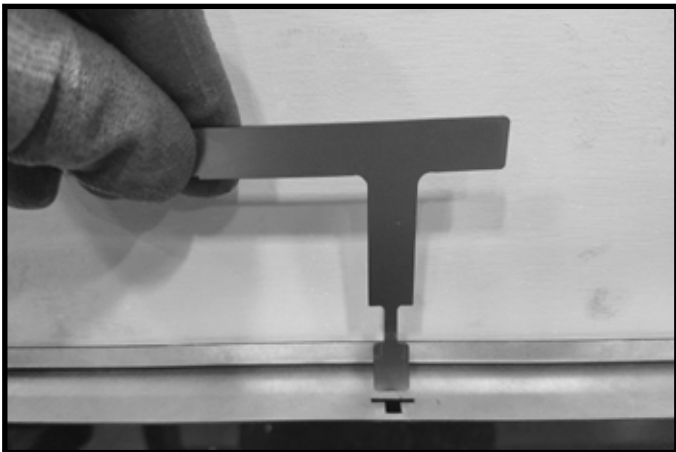

Figure 12 Pull Tool Inserted Into Slot
6. Insert pull tool into slots on left and right sides of appliance. See Figure 12.